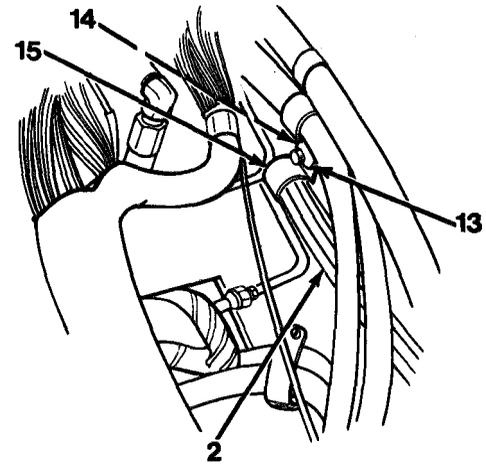

Figure 17-3
12. Remove nut (13), washer (14) and clamp (15) from frame and position throttle cable (2, Figure 17-3). Install clamp (15), washer (14) and nut (13).